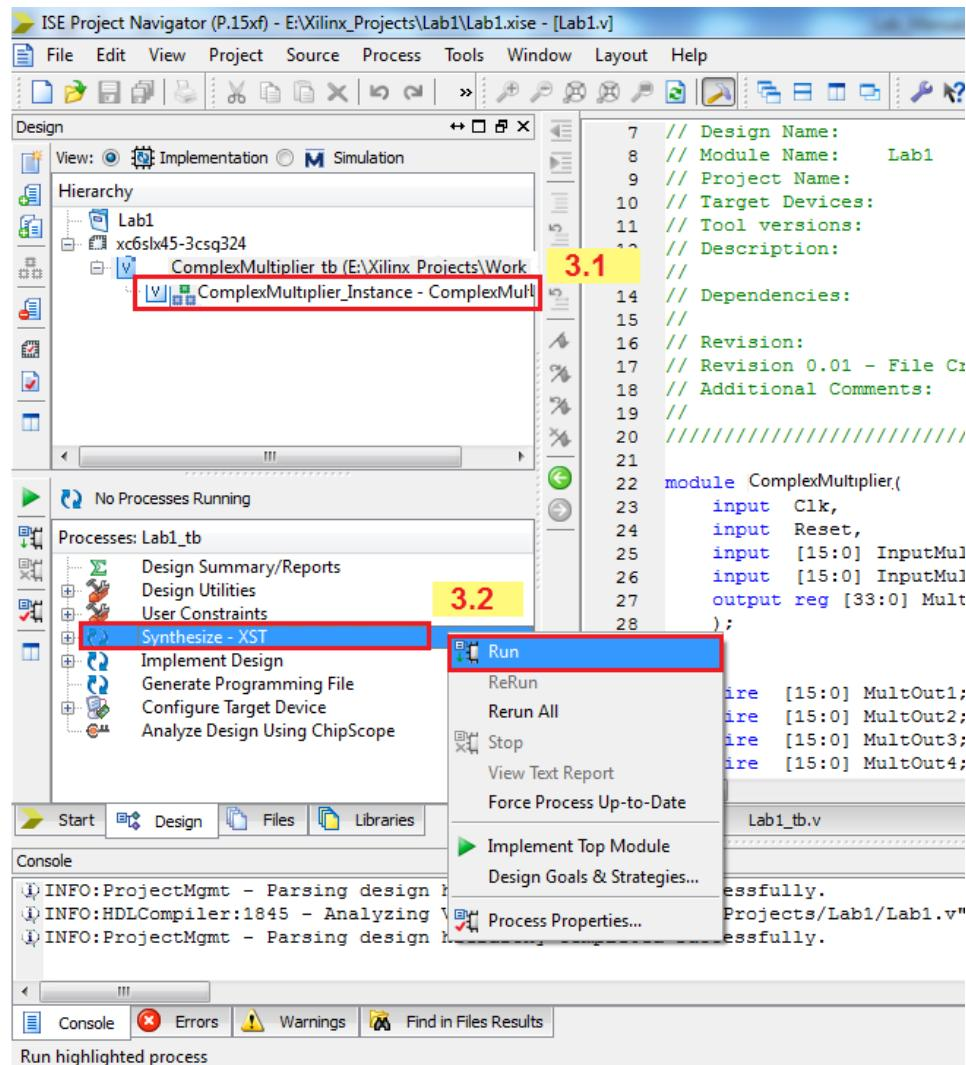

Figure 13.
3. Perform the Synthesis process for the Design (Figure 13)